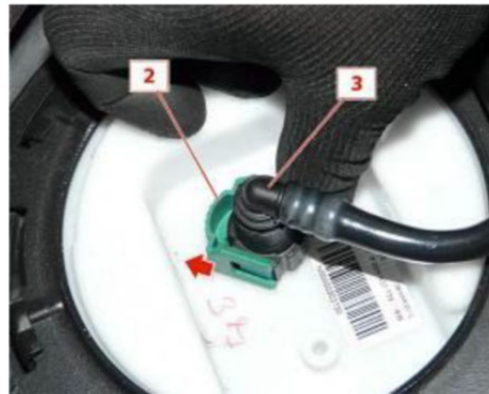

Fig.10
b. Release the safety (2) and unsnap the quick release fuel delivery line (3) as shown in Fig.10.